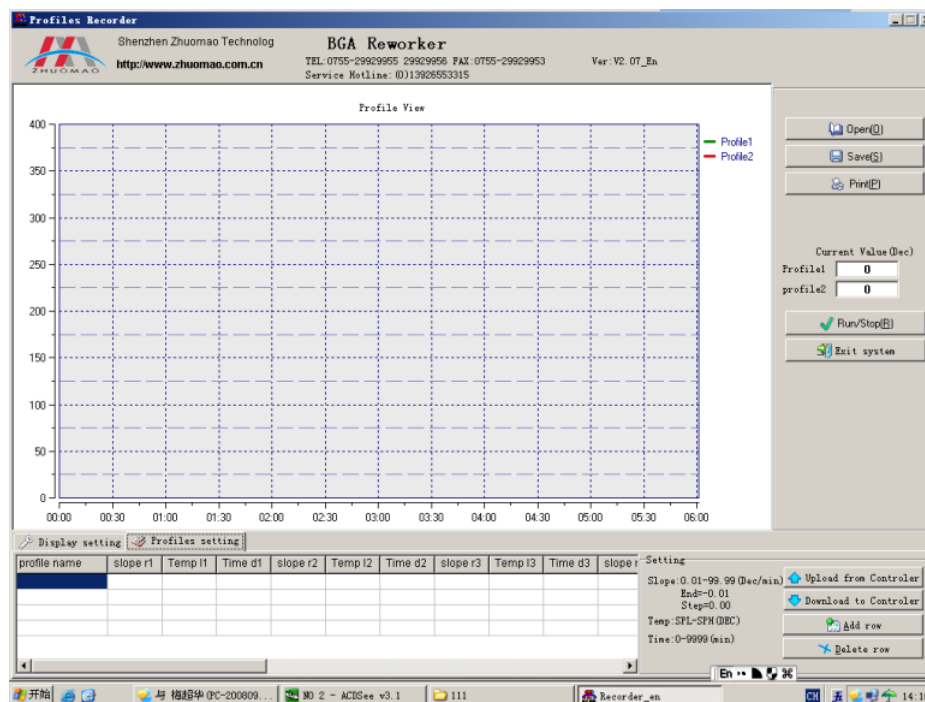
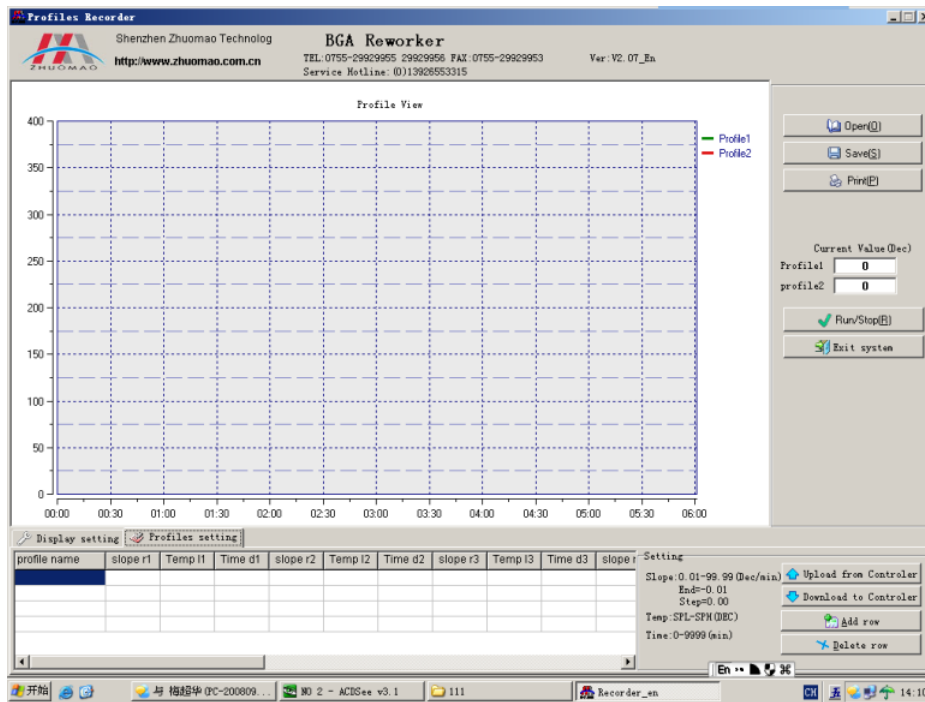

Figure9
Figure10
(10)、At this time you can see the temperature curve.(Figure 9)
3、Development Features Instruction (figure 9、 figure 10)